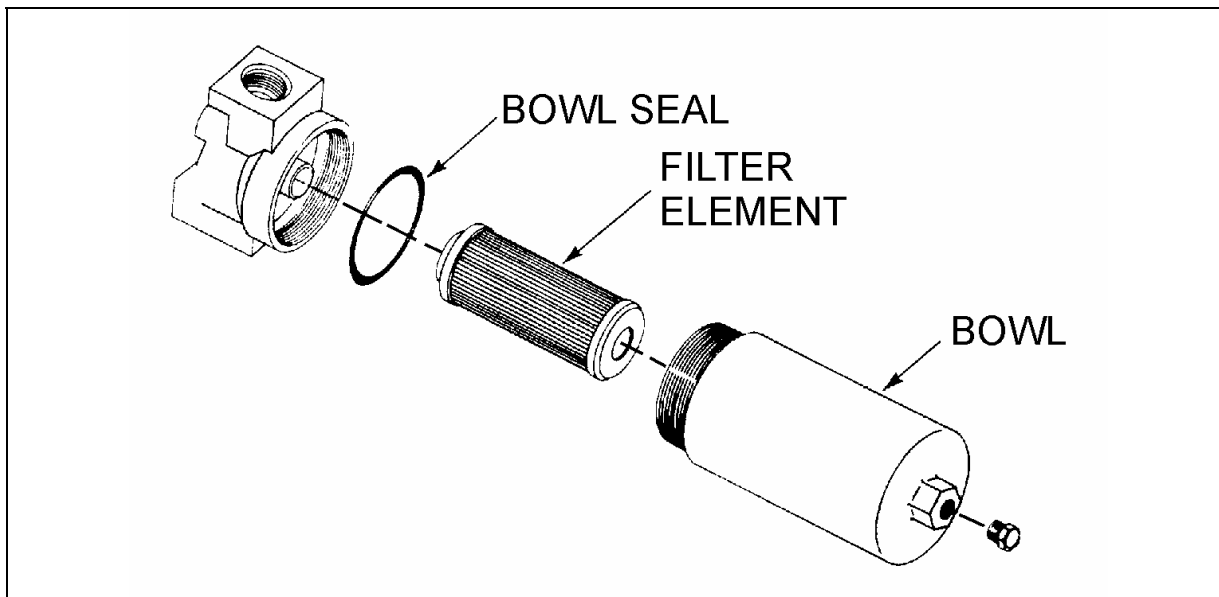

FIGURE 50: WATER FILTER
3. Rotate bowl (Fig. 50) counterclockwise and remove.
4. Remove filter element (Fig. 50) from housing. Discard all disposable elements. These elements are not cleanable.